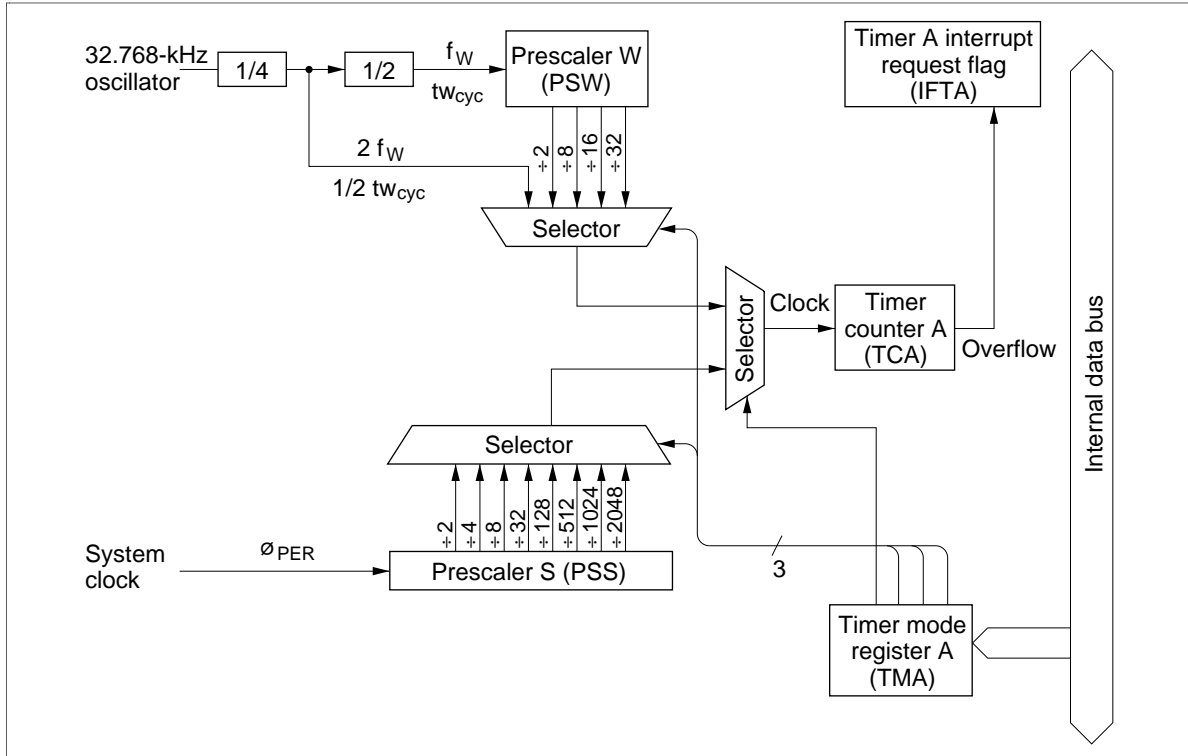

Figure 26 Timer A Block Diagram
**Timer A:** Eight-bit timer that can be used as a clock time-base (figure 26). It is initialized to \$00 and incremented at each input clock. If an input clock is applied to timer A after it has reached \$FF, an overflow that sets the timer A interrupt request flag (IFTA: \$001, bit 2) is generated, and timer A restarts from \$00.